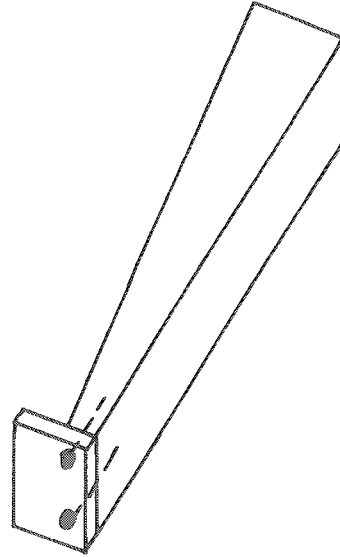

Fig. 1.26 Cleat tacked to narrow end.
3. Tack a cleat on to the narrow end (**Fig. 1.26**).